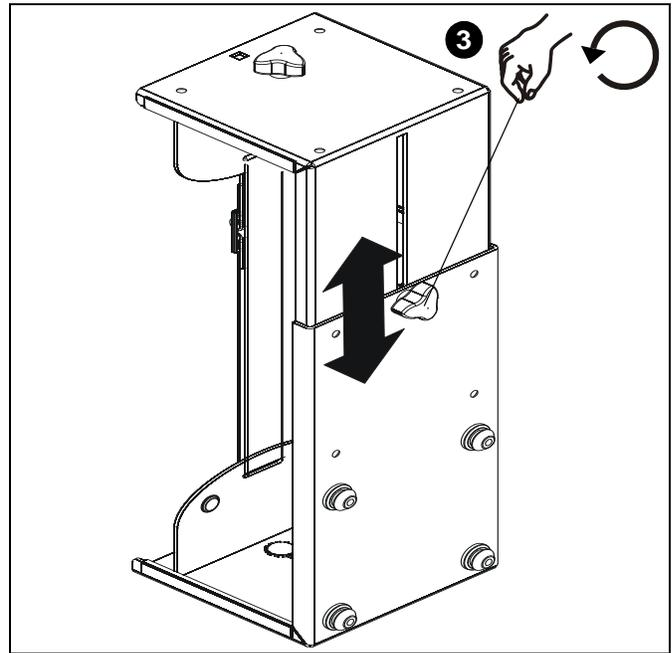

Figure 3
3. Loosen adjustment knob at the back of the mounting unit and adjust height of mount to a height greater than the height of the CPU to be installed. Loosen strap at the front of the mount if necessary. (See Figure 3)